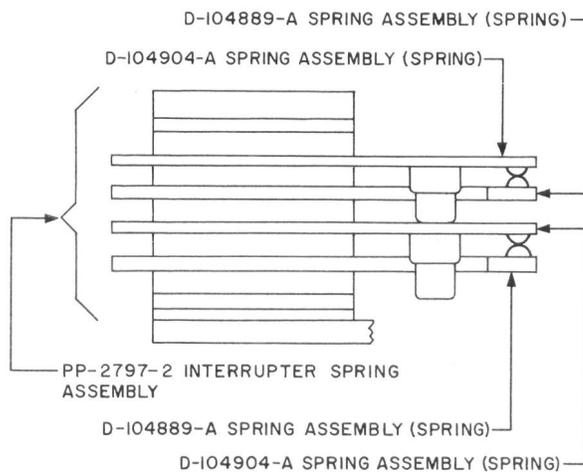

Fig. 5 - Interrupter Spring Assembly - KS-16201, L1 and L2 Selectors and KS-16203, L1 and L2 Selectors
3.15 Interrupter Spring Assembly — (Fig. 5[†] through 9)
4. To add Fig. 5 through 9.
6. To add KS-19086 selector in replacement procedures [3.06(2), 3.07(2), 3.11(2) and (4), 3.12(2), 3.13, and 3.14(2)].